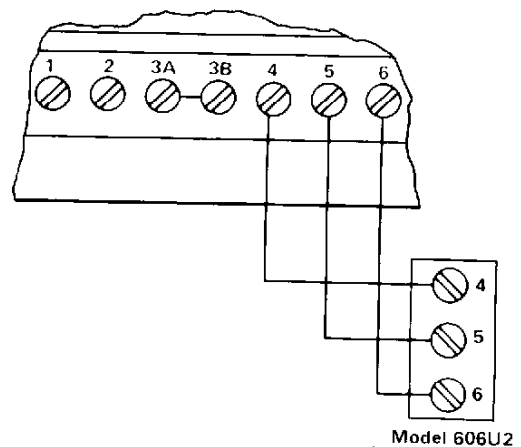

Figure RWD2: Wiring Connections for Model 606U2 with any 609 Series Function Card. (Only accessory wiring shown for clarity.)
For remote test and alarm indication, use ESL Model 606U2 and wire as shown in Figure RWD2.
- b. Model 606U2 Wiring Diagram—Figure RWD2